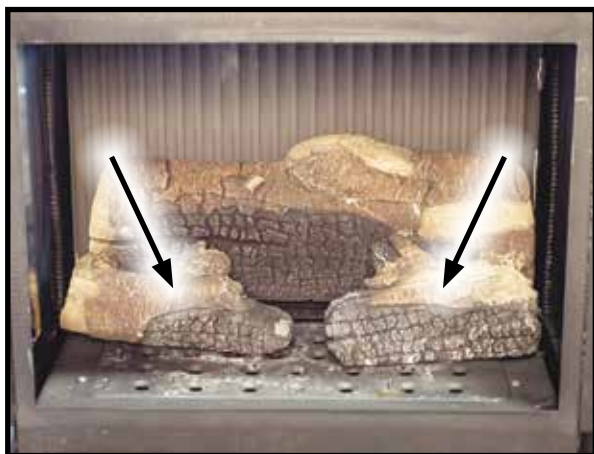

Figure 51. Log #5 & #6 Placement
2. Place Log #5 on the left and Log #6 on the right in front of Log #8. Line up the bottom holes with the pins on the burner pan (Figure 51).